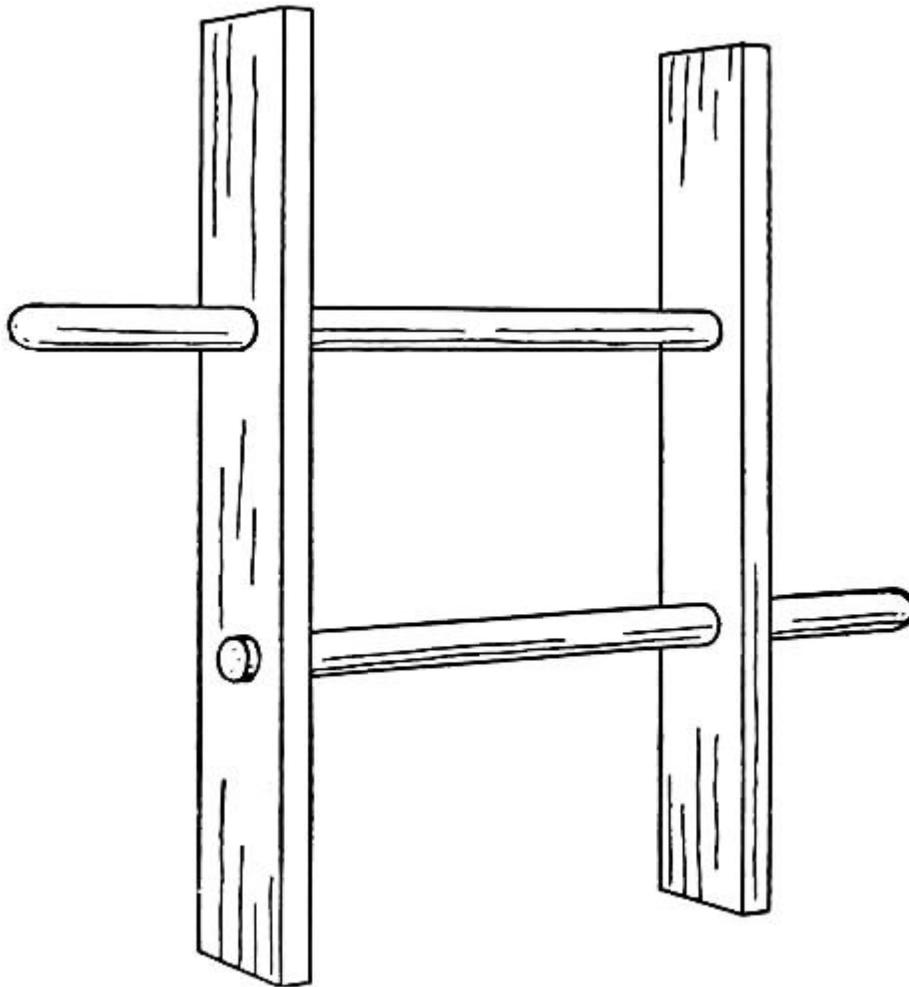

FIG. 45.—A Clothes-line Reel.
**A Clothes-line Reel**, such as shown in Fig. 45, is an article no housekeeper should be without. Its use does away with twisted, tangled, and knotted clothes-lines.
The reel consists of two strips of wood sixteen inches long by three inches wide for the sides, and two pieces of broom-handles sixteen inches long for the horizontal rods (see Fig. 45). Five inches from each end of the side-pieces, bore a hole the size of the broom-handle.